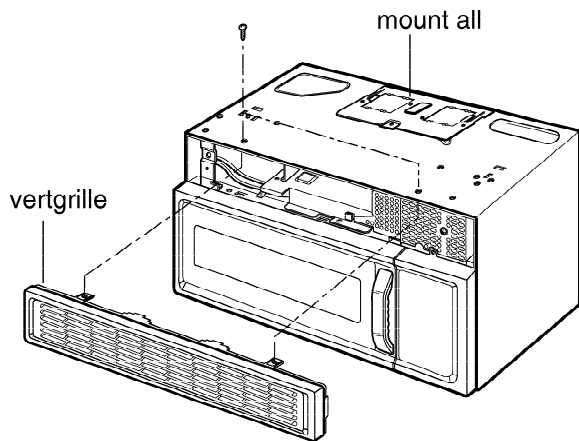

Figure 11
D. REMOVING MAGNETRON (Figures 11 Through 13)
- (1) Remove vertgrille.
- (2) Remove mount all.
- (3) Remove outcase.
- (4) Disconnect the wireleads.
- (5) Remove the 3 screws and Magnetron very carefully.